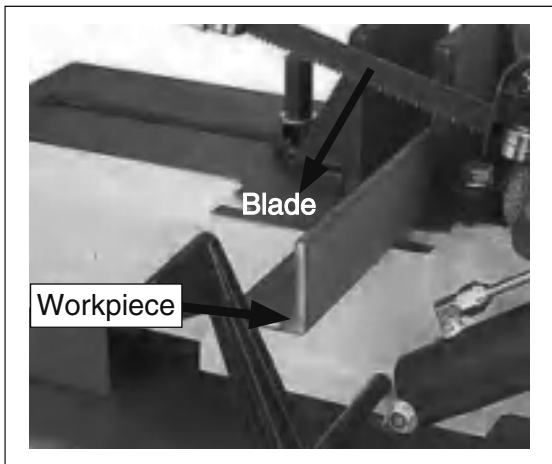

Figure 22. Correct blade starting position.
- Let blade reach full speed before engaging workpiece (see **Figure 22**. Never start a cut with blade in contact with workpiece.